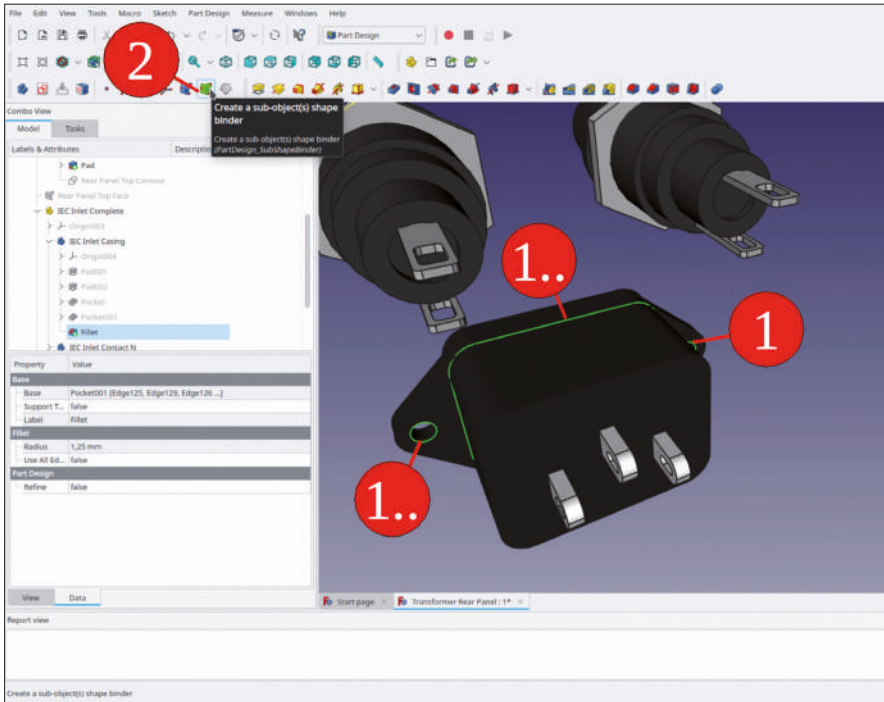

Figure 9-45
3. Hold down the CTRL key and select from the 3D view all edges of the IEC power inlet, which determine the cutout and screw holes in the panel (Figure 9-45). Then, click the green 'Create a sub object(s) shape binder' tool button.